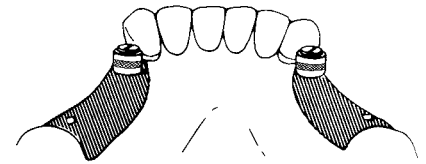

Fig. 13
3. Fully seat the male and retention sleeve in the female (Fig. 13). Block out all undercuts with wax.